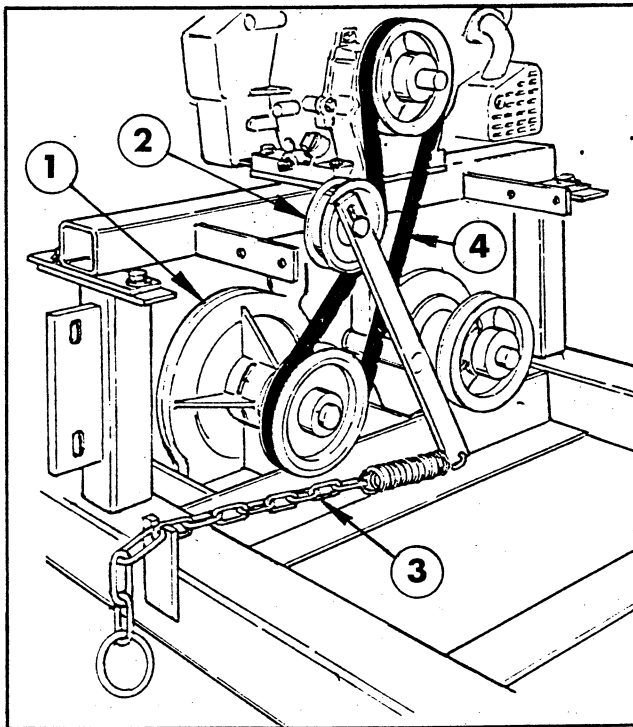
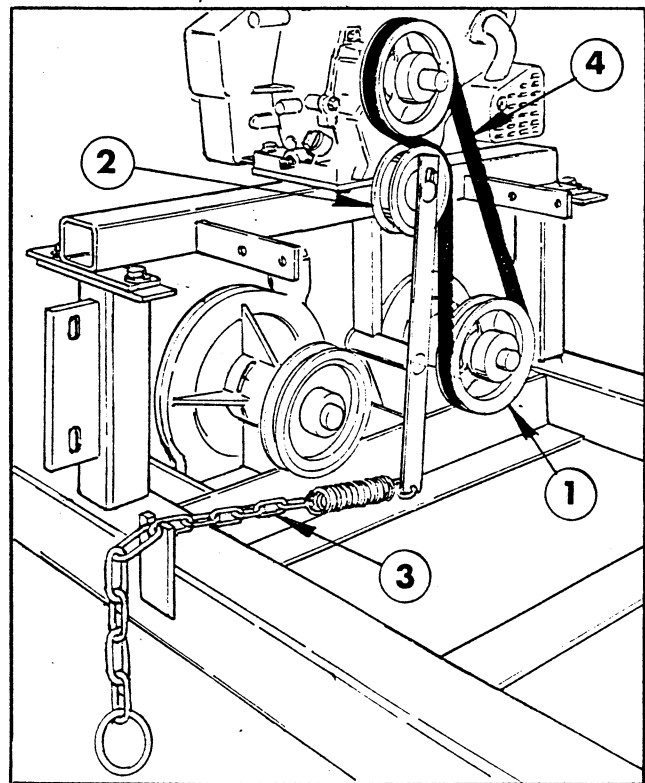

Figure 2
Figure 9
The Drive Belt shown in Fig. 2 is installed correctly for driving the Centrifugal (high volume) Pump **ONLY**. See Fig. 9 on page 11, for the correct Belt installation for driving the Diaphragm (high pressure) Pump.
1. Install the Drive Belt on the Engine and Pump Pulleys as shown in Fig. 9. The Diaphragm Pump is used for high pressure spraying, i.e. Hand Gun spraying.
2. Pull the Idler Engagement Chain to bring the Idler Pulley into contact with the Drive Belt. At the point of resistance by the Drive Belt, pull the Chain the distance of another two links and insert that link into the lug on the Skid Frame See Fig. 9.
2. Install the Drive Belt on the Pump of your choice. See Fig. 2, page 7 or Fig. 9, page 10. Position the Idler Engagement Chain to engage the Pump drive.